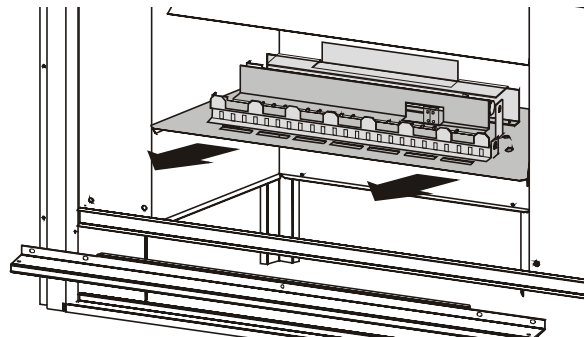

Figure 14. Removing the old burner assembly.
4. Disconnect the gas supply line from the control valve under the fireplace. Remove the two screws located at bottom rear of burner pan. Disconnect the primary spill switch from the gas valve. Leave the primary spill switch in its location, as it must be re-wired to complete the new burner assembly installation. Lift the complete burner assembly, up and out of unit to clear support ledge. See figure 14. Remove the existing fan assembly, if installed.